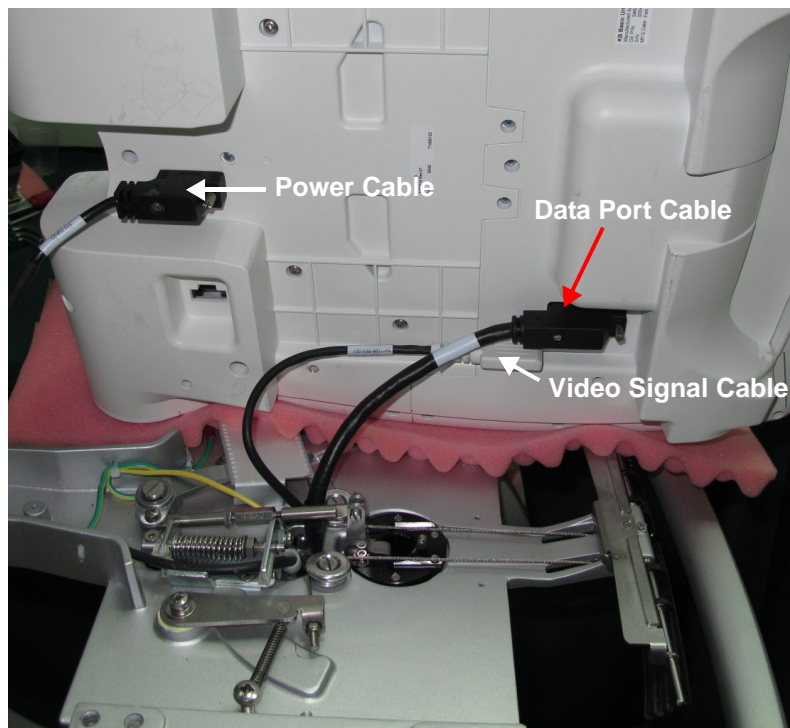

Figure 8-53 Underside of the Keyboard Assembly Showing Cables Connected
- 6.) Tilt the keyboard assembly upwards, exposing the three cables connected to the keyboard assembly - see Figure 8-53 below.
- 7) Using the appropriate screwdriver release the securing screw and unplug the Data Port Cable from the Keyboard Assembly as shown in Figure 8-53, above.
- 8.) Unplug the Video Signal cable and using a flat screwdriver, release the securing screw and unplug the power cable from the Keyboard Assembly - see Figure 8-53, above.